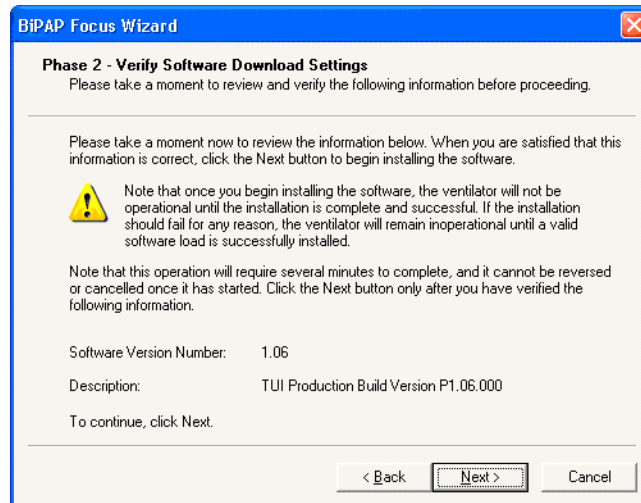

Figure 6-17: Verify Software Download Settings
9. The screen then displays user interface software download information (Figure 6-17): verify that this information is correct then click **Next**.